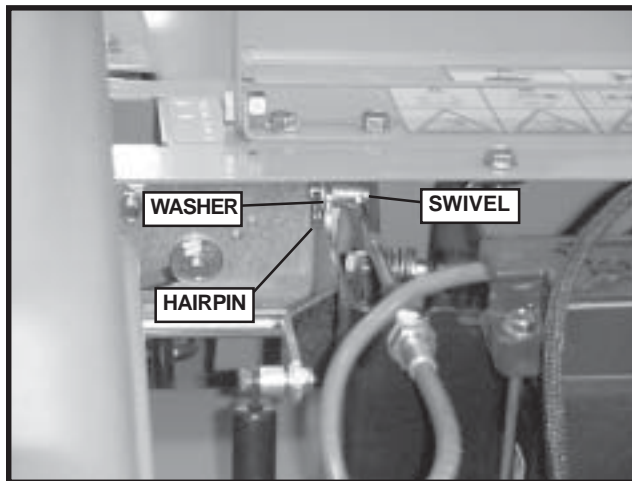

FIGURE 8
1. Reach under the seat support and remove the hairpin and washer holding the swivel to the control brackets. See Figure 8. Repeat on other side.